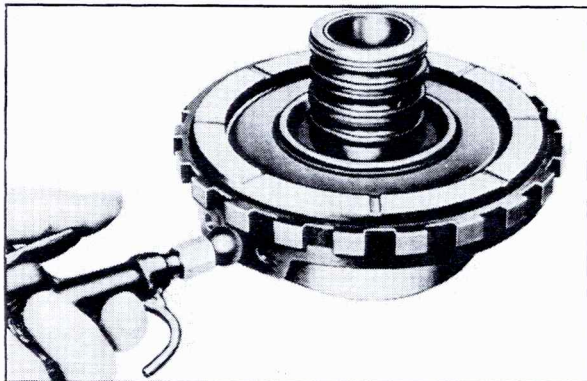

Fig. 7-190 Air Checking Intermediate Clutch
g. Air check operation of intermediate clutch piston. Apply air through center oil feed hole to actuate clutch piston, Fig. 7-190.